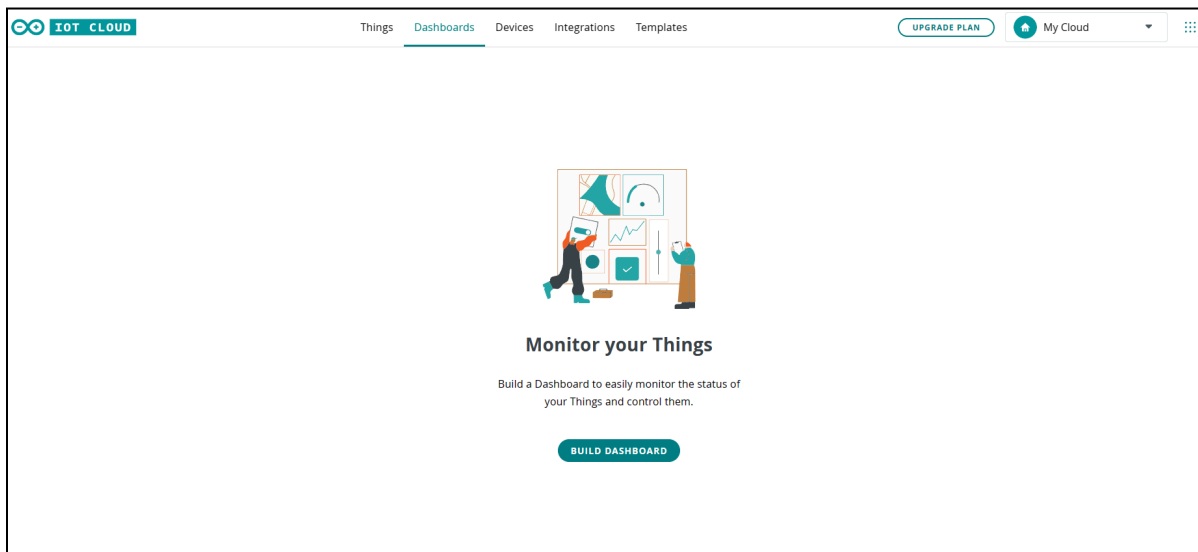

Fig. 20: Build Dashboard
1. Navigate to the "Dashboards" tab as shown below in Fig. 20